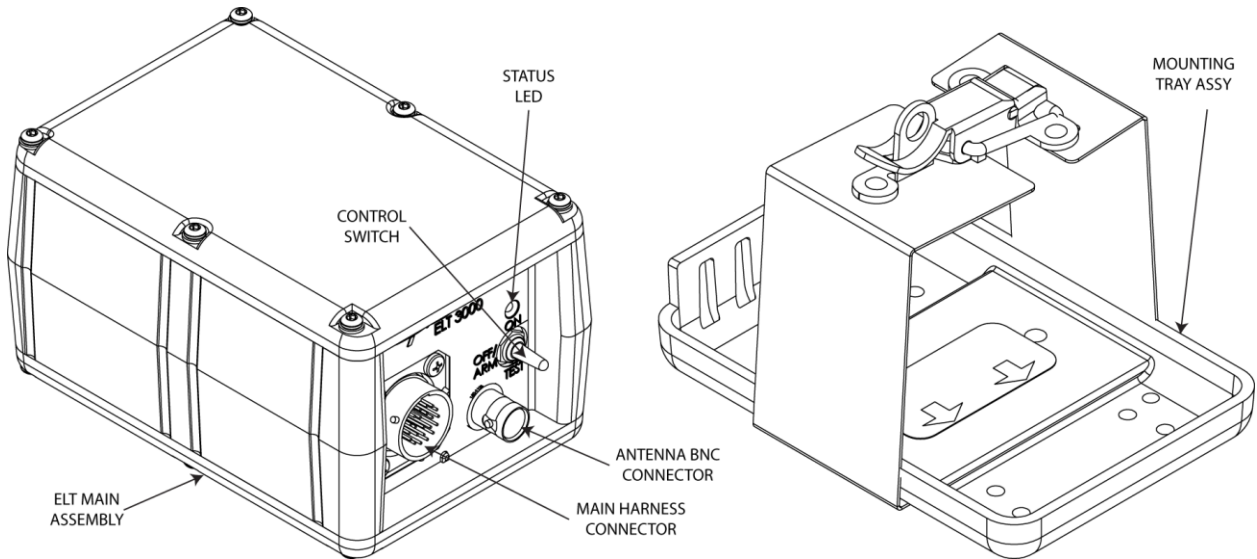

Figure 1 ARTEX ELT 3000 Beacon and Mounting Tray
- 1) The ARTEX ELT 3000 housing assembly and tray are made of high impact, fire resistant, polycarbonate-polyester plastic. (see Figure 1).